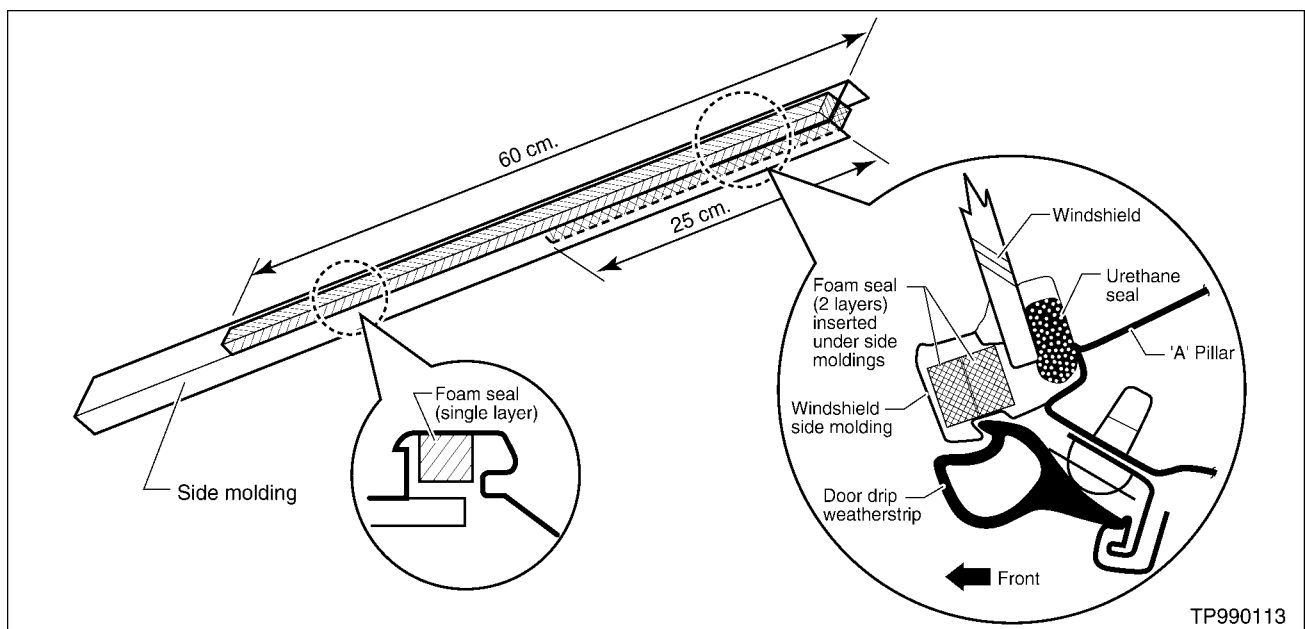

Figure 3. Foam Seal Location
3. Attach the longer foam strip inside each of the side moldings (see Figure 3). Attach the shorter foam strip at the thicker end of each of the side moldings as shown in Figure 3. The foam seal will absorb any wind noise created inside the side moldings.